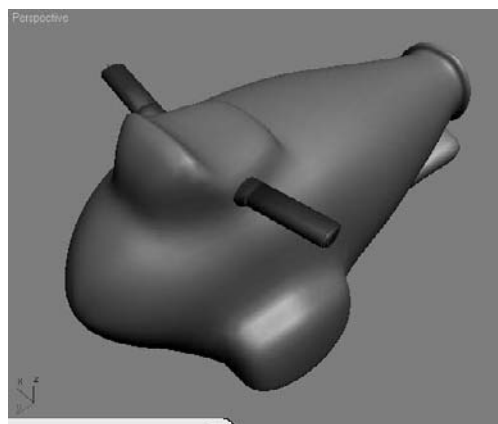

Figure 5.115
9. Select the handlebar and mirror it for the other side of the rocket. Place it as needed. Figure 5.115 shows the rocket with its handlebars.